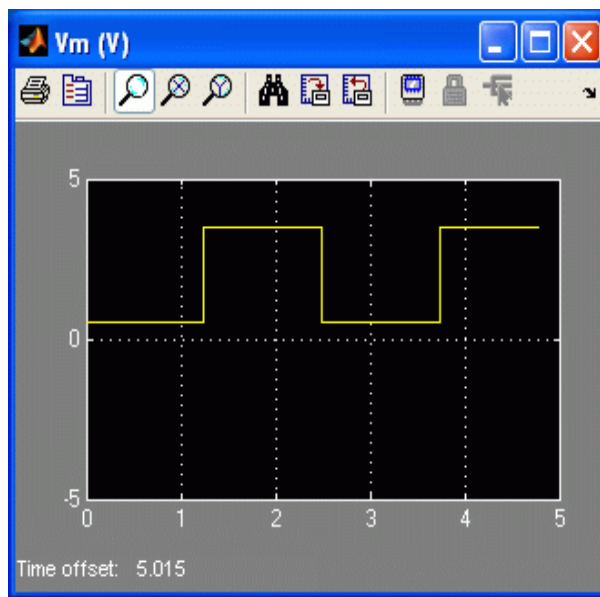

Figure 11: Square input motor voltage.
2. Set the *Amplitude (V)* slider gain to 1.5 V.
3. Set the *Offset (V)* block to 2.0 V.
4. Open the load shaft speed scope, w_l (rad/s), and the motor input voltage scope, V_m (V).
6. Select QUARC | Start to begin running the controller. The gears on the SRV02 should be rotating in the same direction and alternating between low and high speeds. The response in the scopes should be similar to the readings shown in figures 11 and 12.